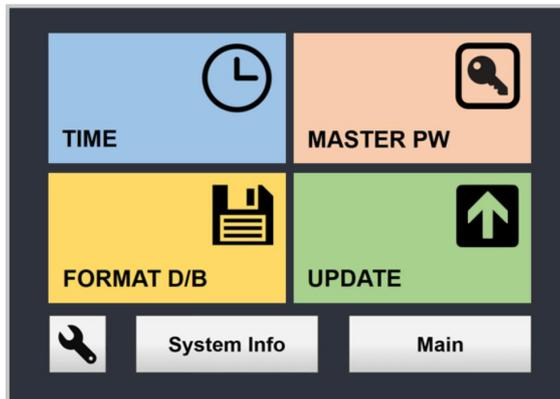

Fig. 3-28
Access the Setup panel (Fig. 3-28) by selecting the button “Setup” in the main interface. You can set the time, update the interface, change Master Password, check System Information, and calibrate the instrument.
5. Select the button “Setup” in the main interface and open the setup window(Fig. 3-28).
1. Open the Setup window (Fig. 3-28) by selecting the button “Setup” in the main interface.
1. Open the Setup panel (Fig. 3-28) by selecting the button “Setup” in the main interface.